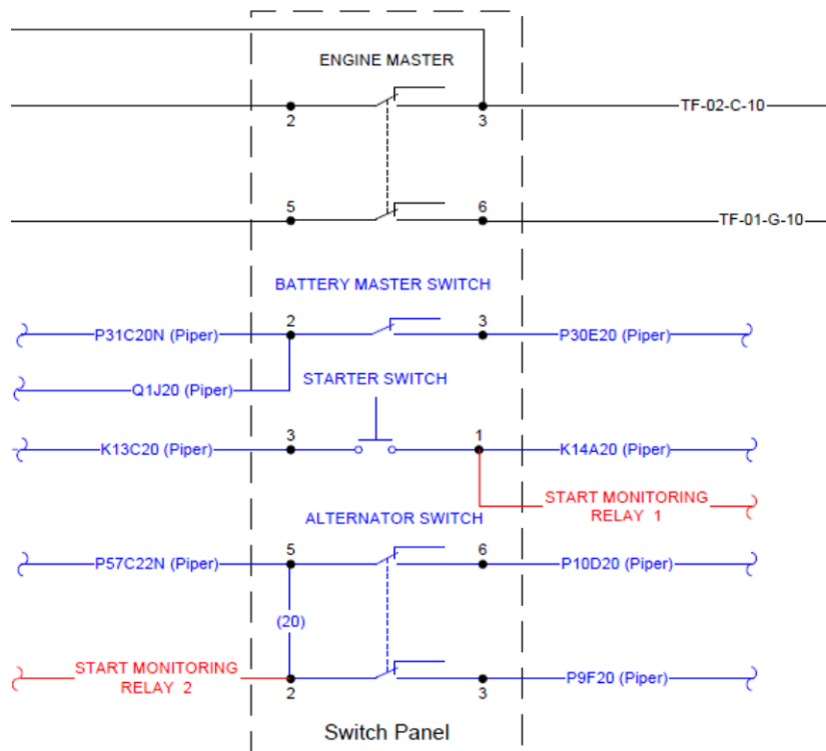
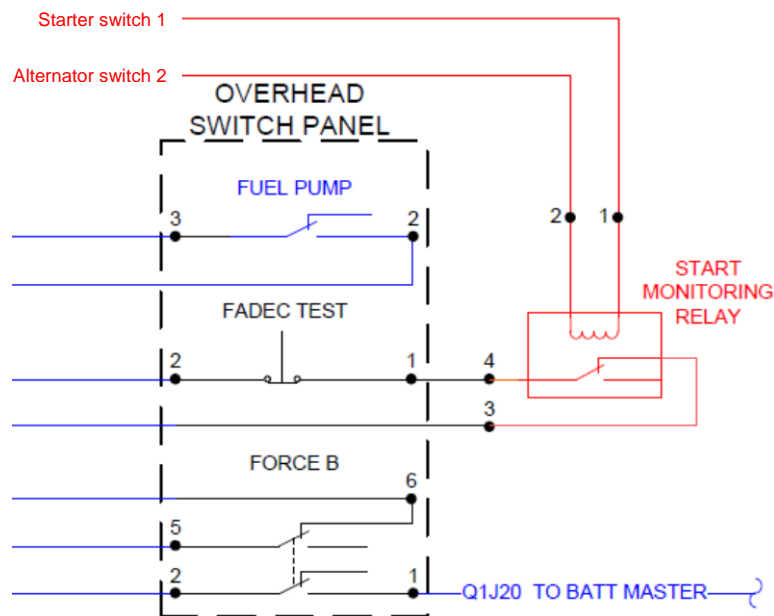

Figure 1b
Figure 1c
- Install the Starter Info Board in the Overhead Switchpanel in accordance with Figure 1b and Figure 1c.